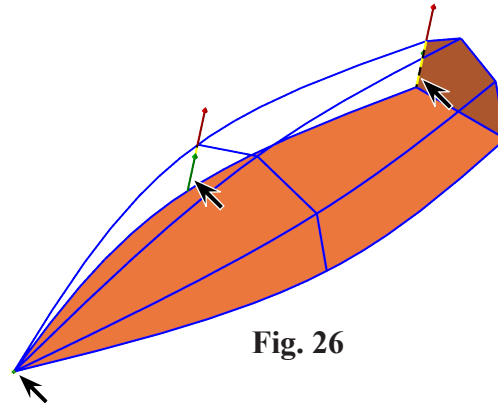

Fig. 26
Step 3. Chain rib entities on the port side in order, **rear Line** and **middle Line**. Select Lines at the same end, **Fig. 26**. If when chaining the Lines chaining directions arrows do not pointing in the same direction - click Reverse  in the Chaining dialog box.
Step 5. Click the **Point**, **Fig. 26**.